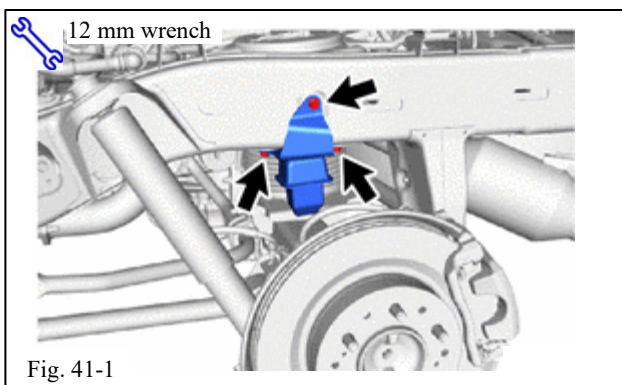

Fig. 41-1
- (f) Remove all three bolts from each OE jounce bumper. Retain the Bolts for reinstallation. Discard OE jounce bumper (Fig. 41-1).